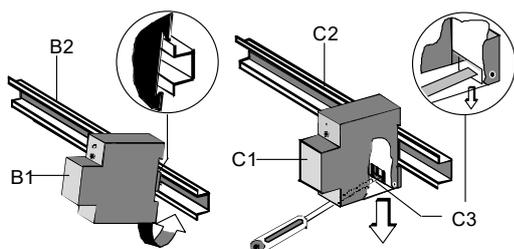

figure 3: Mounting and unmounting a DIN rail mounted device
Mounting DIN-rail devices (Figure 3)
- Slide the device (figure 3, B1) onto the DIN-rail (figure 3, B2) and
- swivel back the device (figure 3, B1) until the slide clicks into place audibly.
- press down the slide (figure 3, C3) with a screwdriver and
- swivel the device (figure 3, C1) from the DIN-rail (figure 3, C2).